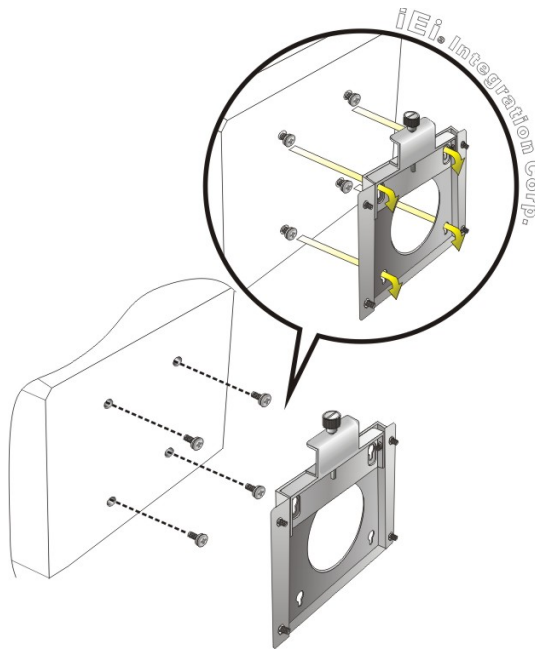

Figure 3-38: Hook Onto Wall Mounting Kit
- Step 2:** Screw the mounting screws to the mounting holes on the rear of the DM-F series (Figure 3-38).
- Step 3:** Hook the DM-F series into the mounting holes on the wall mounting kit (Figure 3-38).